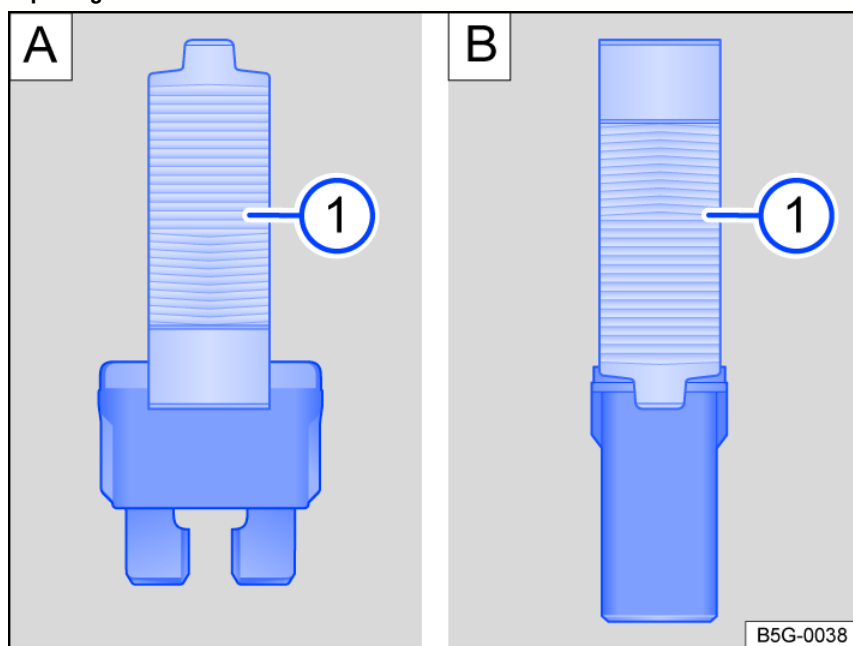

Fig. 141 Remove or install a fuse with the plastic pliers (general example).
① Plastic pliers.
1. Remove plastic tongs from either the fuse box or the cover of the fuse box *fig. 141* ①.
2. Depending on the design of the fuse, slide the appropriately sized clamp on the plastic pliers onto the fuse from above or from the side *fig. 141*.
4. If a fuse is blown, replace with a fuse with the *same* rating (same color and same label) and the *same* size ⇒ ❶.